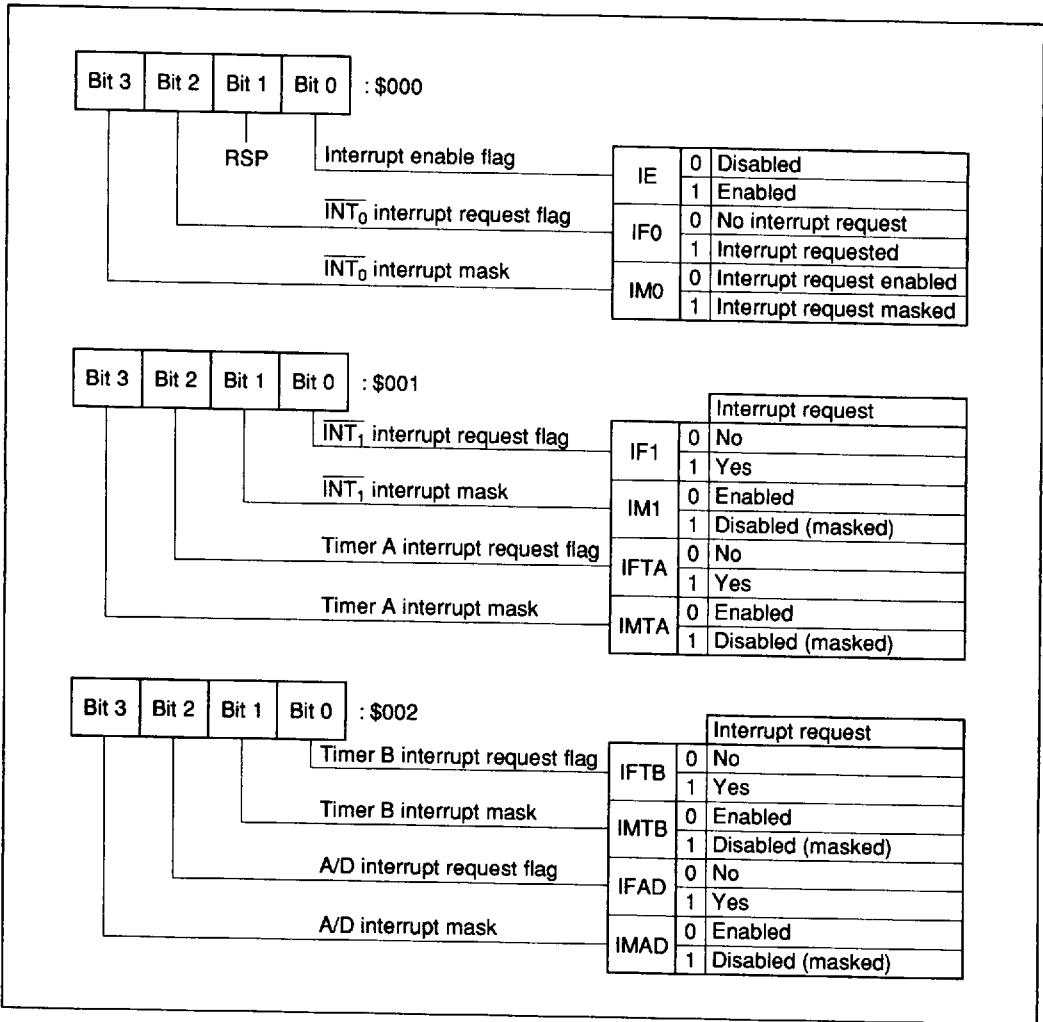

Figure 9 Interrupt Control Bits
The  $\overline{INT}_1$  input can be used as a clock signal input to time B. Timer B is incremented at each falling edge of the  $\overline{INT}_1$ . When using  $\overline{INT}_1$  as the timer B external event input, the external interrupt mask (IM1) must be set so that the interrupt request by  $\overline{INT}_1$  will not be accepted. Figure 9 shows the interrupt mode register.
**External Interrupt Request Flags (IF0: \$000, Bit 2; IF1: \$001, Bit 0):** The external interrupt request flags (IF0, IF1) (figure 9) are set at the falling edge of the  $\overline{INT}_0$  and  $\overline{INT}_1$  inputs, respectively.
**External Interrupt Masks (IM0: \$000, Bit 3; IM1: \$001, Bit 1):** The external interrupt mask bits (figure 9) mask an interrupt request caused by the external interrupt request flags.
**Timer A Interrupt Request Flag (IFTA: \$001, Bit 2):** The timer A interrupt request flag (figure 9) is set when an overflow occurs in timer A.
**Timer A Interrupt Mask (IMTA: 001, Bit 3):** The timer A interrupt mask bit (figure 9) masks an interrupt request caused by the timer A interrupt request flag.
**Timer B Interrupt Request Flag (IFTB: \$002, Bit 0):** The timer B interrupt request flag (figure 9) is set when an overflow occurs in timer B.
**Timer B Interrupt Mask (IMTB: \$002, Bit 1):** The timer B interrupt mask bit (figure 9) masks an interrupt request caused by the timer B interrupt request flag.
**A/D Interrupt Request Flag (IFAD: \$002, Bit 2):** The A/D interrupt request flag (figure 9) is set when an A/D conversion is completed.
**A/D Interrupt Mask (IMAD: \$002, Bit 3):** The A/D interrupt mask bit (figure 9) masks an interrupt request caused by the A/D interrupt request flag.